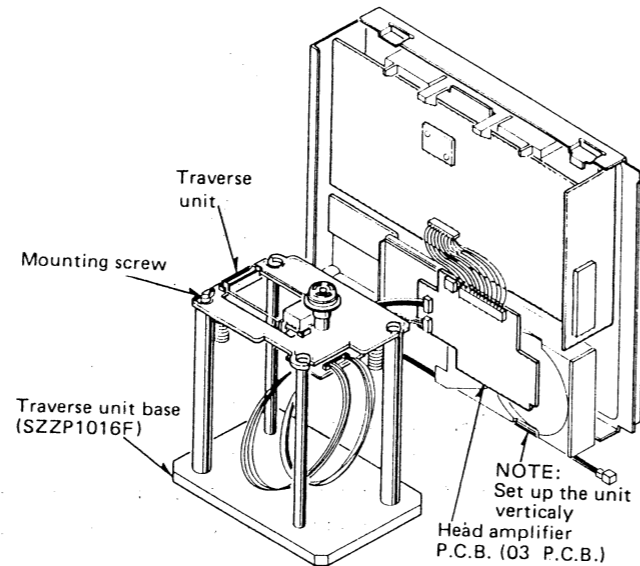

Fig: 2-1. Positioning view of the traverse deck and unit.
7. Position the assembly as shown in figure 2-1.